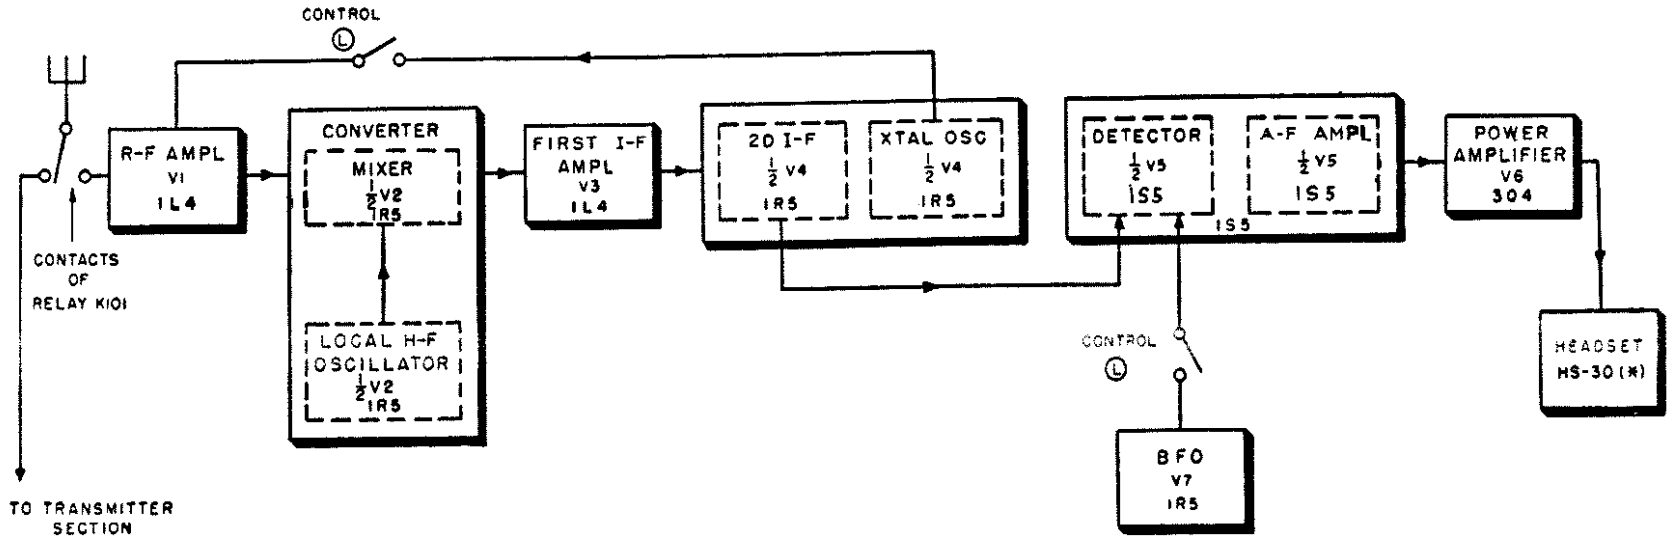

Figure 55. Block diagram of receiver section of receiver-transmitter RT-77/GRC-9-GY.
(fig. 55)
a. GENERAL. The receiver section of Receiver-Transmitter RT-77/GRC-9-GY consists of a 7-tube superheterodyne receiver designed for the reception of c-w and a-m signals over a frequency range of from 2.0 to 12.0 mc. Three bands are used to cover this range; band 1 covers from 6.6 to 12.0 mc, band 2 covers from 3.6 to 6.6 mc, and band 3 covers from 2.0 to 3.6 mc. The block diagram (fig. 55) shows the signal path through the receiver. A complete schematic diagram is shown in figure 125. The same antenna is used for transmitting and receiving; switching between the two sections is accomplished by a relay in the transmitter, which is operated by the key or press-to-talk switch on the microphone.